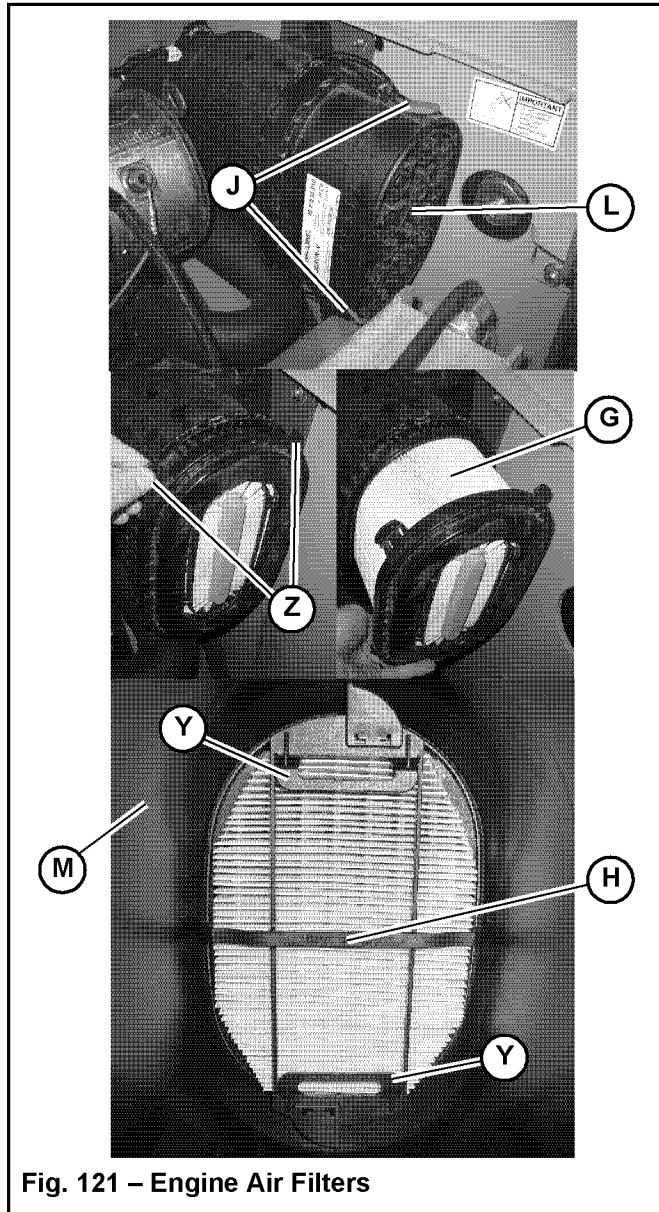

Fig. 121 – Engine Air Filters
The air cleaner consists of an outer (primary) filter element (G, Fig. 121), an inner (secondary) filter element (H) and an optional pre-cleaner.
3. Unlatch clamps (J, Fig. 121) on the air cleaner housing and remove the air filter cover (L).
5. Pull tabs (Z) and carefully remove the outer filter element (G, Fig. 121). Do not remove inner filter element (H) unless it will be replaced. If inner filter element (H) will not be replaced, skip to step 10.
6. Clean dirt from inside the air filter housing (M).